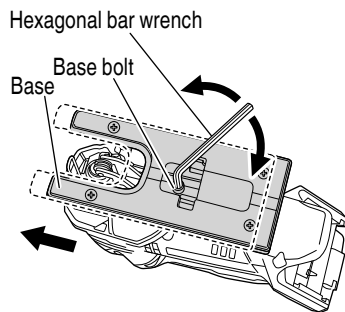

Fig. 21
- (1) Loosen the base bolt hexagonal bar wrench attached on base. (Fig. 21)
- (2) Move the base fully forward, and tighten the base bolt again. (Fig. 21)
- (3) Set the orbital position to "0".
- (1) Loosen the base bolt by hexagonal bar wrench attached on base and move the base fully forward. (Fig. 21)
- (3) Tighten the base bolt again. (Fig. 21)
- (4) Set the orbital position to "0" - "III".